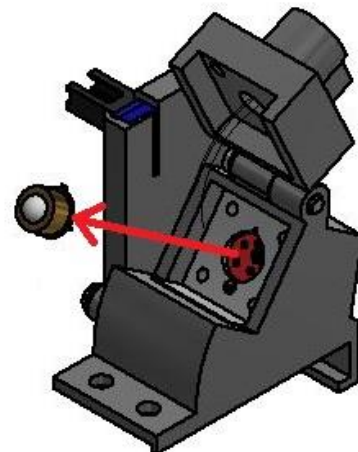

Figure L-7 Removing the diode from the UV source assembly
7. Carefully, remove the diode from the socket as shown in figure L-7. The diode is sensitive to electrostatic discharge (ESD). Precautions must be taken to prevent ESD such as wearing an earthing strap and using a grounded mat.